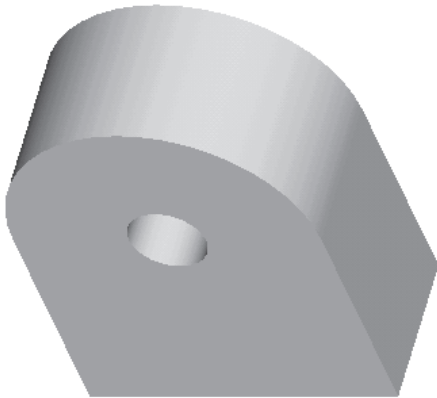

Figure 4-46 Base feature of the model without datums
- b. Select the sketching plane for the base feature, draw the sketch using the sketching tools, apply the dimensions and constraints, and then extrude the sketch to the given distance, see Figure 4-46.
The base feature is completed and is shown in Figure 4-46. You can use CTRL+middle mouse button to spin the model to view it from different directions.